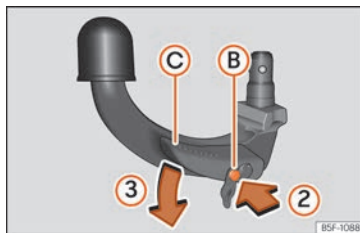

Fig. 253 Step 2.
- Press the release bolt ⑨ in the direction of arrow ②, and at the same time press lever ⑦ in the direction of arrow ③ as far as it will go »» Fig. 253.